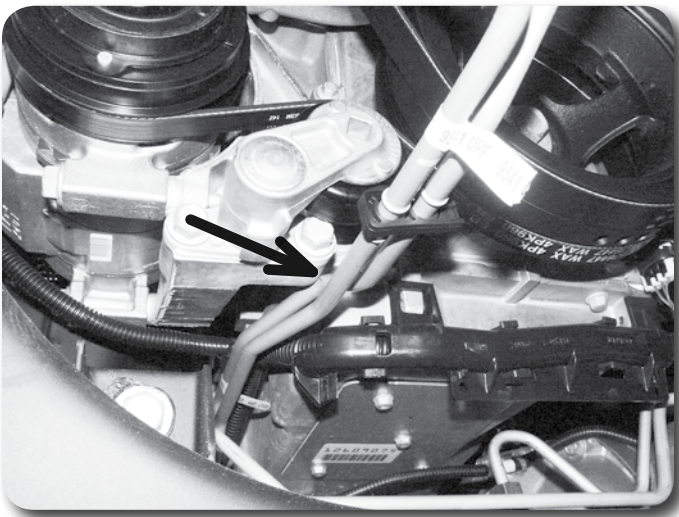

Figure 14
32. Check the transmission cooler lines that run from the front of the vehicle to the passenger's side of the oil pan to be sure they are not rubbing on any components **Figure 14**. If clearance is needed, carefully bend the hardlines up near the point where they attach to the rubber section (near the radiator). Make only small bends by hand, it doesn't take much of a bend to gain adequate clearance.